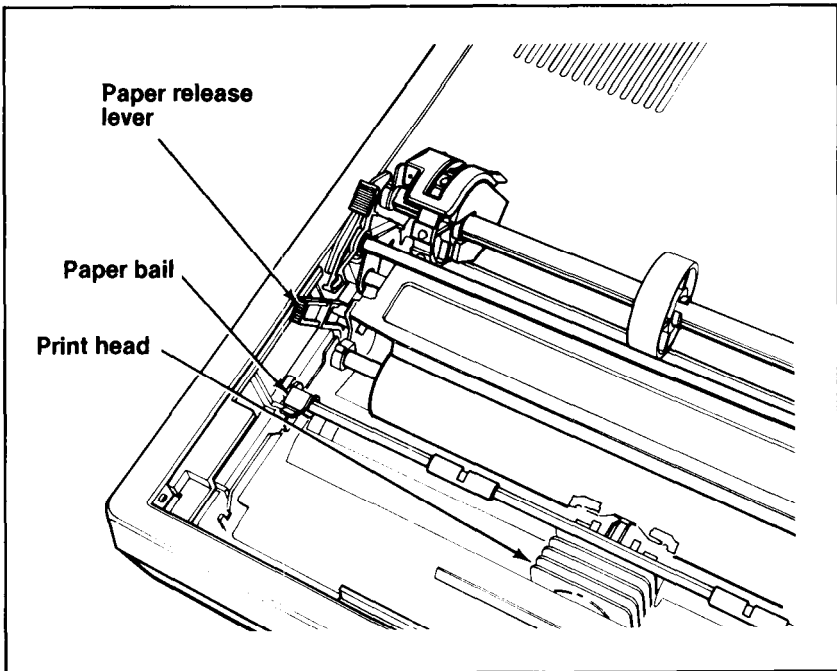

Figure 3-4. Preparing for paper loading
2. Move the print head to the center of the printer, pull the paper bail away from the platen, and pull the paper release lever forward, as shown in Figure 3-4.